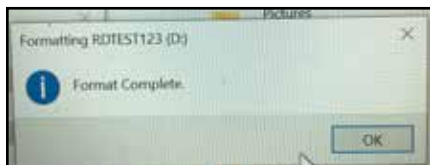

Figure 7
- When the formatting process has completed, a window will pop up informing you that the process completed successfully (Figure 7).